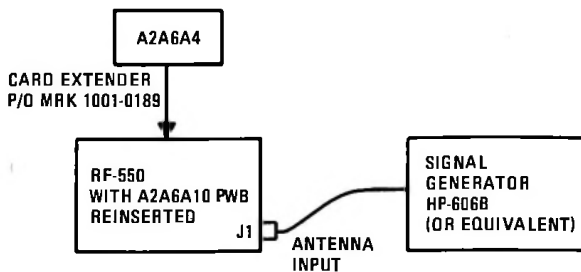

Figure 4. PWB A2A6A4 Test Setup Diagram
h. Make test connections as shown in figure 4.